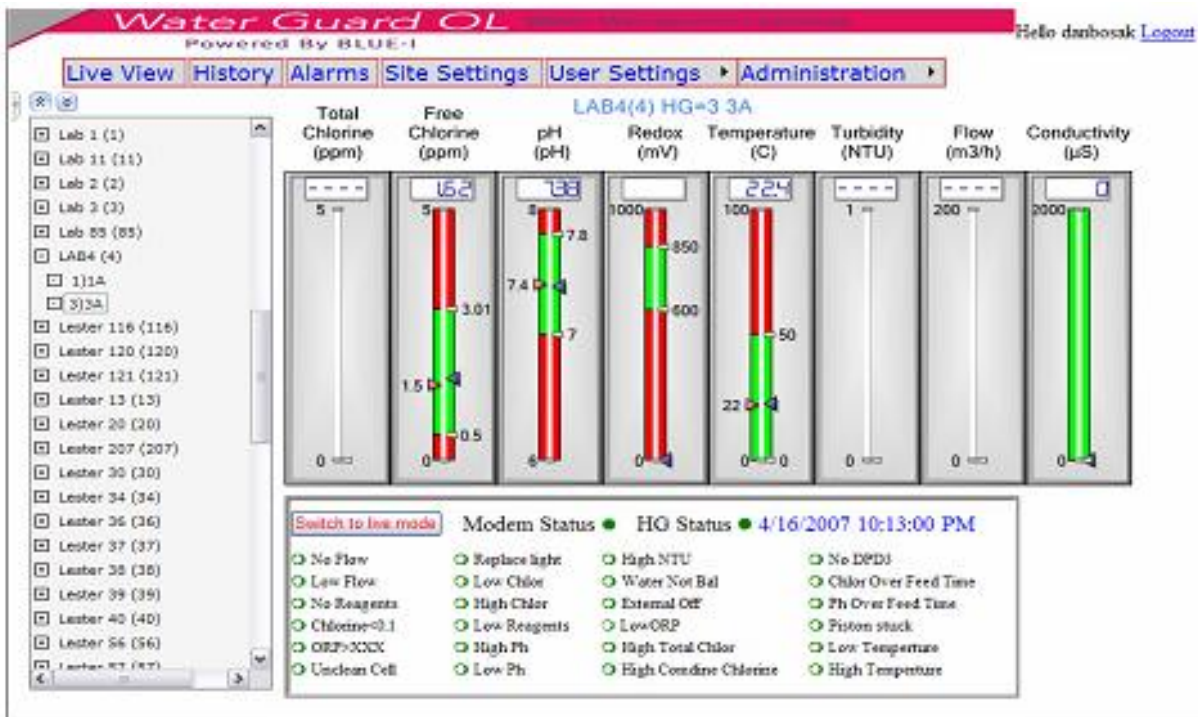

Figure 4: Initial Summary Display: Current Values, Alarms and Relay Operation
3. If the username and password are accepted, the website will load and the graph of the first site at the first location will appear, Figure 4.